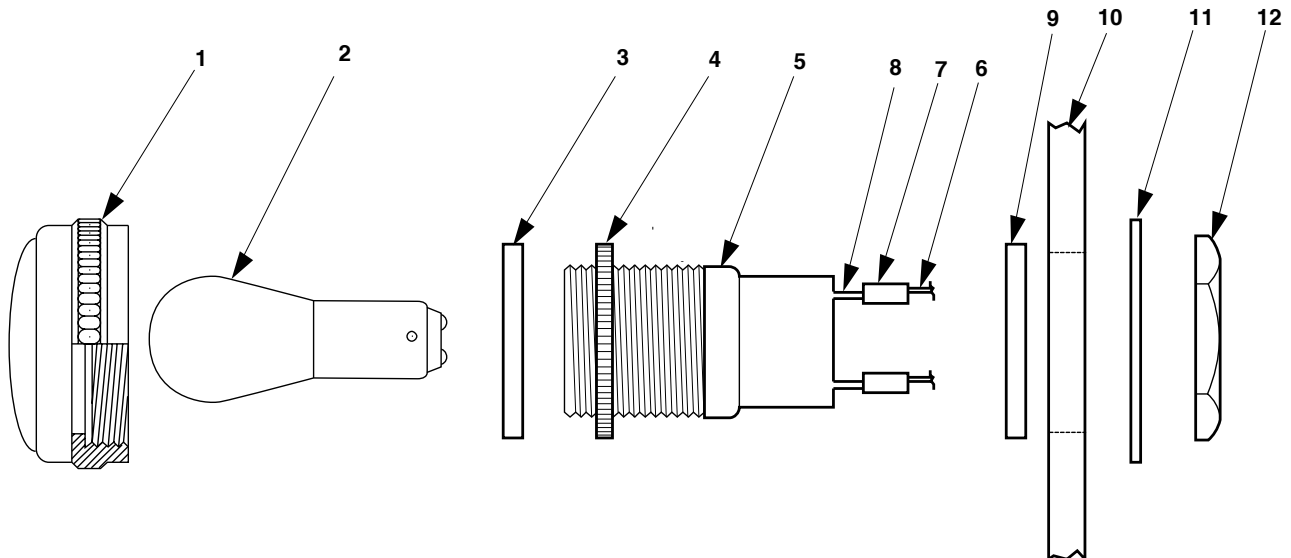

Figure 4-15. Synchronizing Light.
Remove lens (1, figure 4-15) and bulb (2) and measure for continuity between terminals (8). If continuity exists, replace lamp housing.